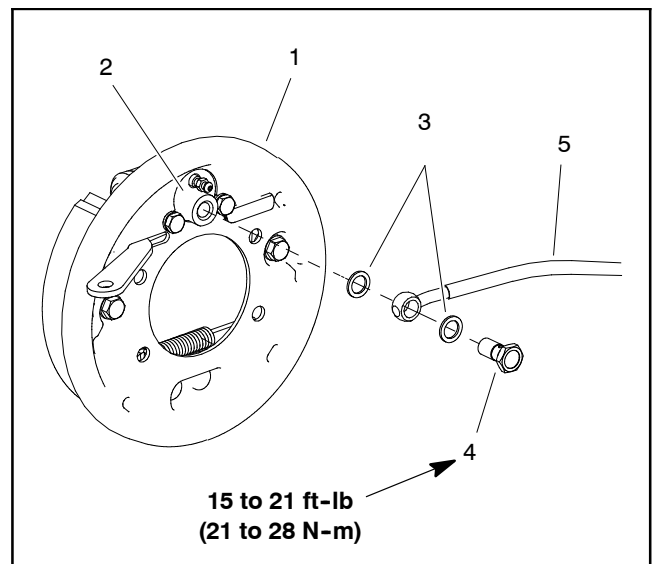

Figure 25
B. Clean hydraulic brake line area of brake assembly to prevent contamination (Fig. 25). Loosen and disconnect brake line from wheel cylinder. Plug brake line and position it away from brake assembly. Discard two (2) banjo washers.
C. Remove four (4) socket head screws and flange nuts that secure the brake assembly to the transaxle.
1. Position brake assembly to the transaxle. Secure backing plate of the brake assembly to the transaxle with four (4) socket head screws and flanged nuts. Torque screws to **20 ft-lb (27 N-m)**.
2. Position new banjo washer on each side of brake line fitting (Fig. 25). Insert banjo bolt into fitting and thread into wheel cylinder. Torque banjo bolt from **15 to 21 ft-lb (21 to 28 N-m)**.